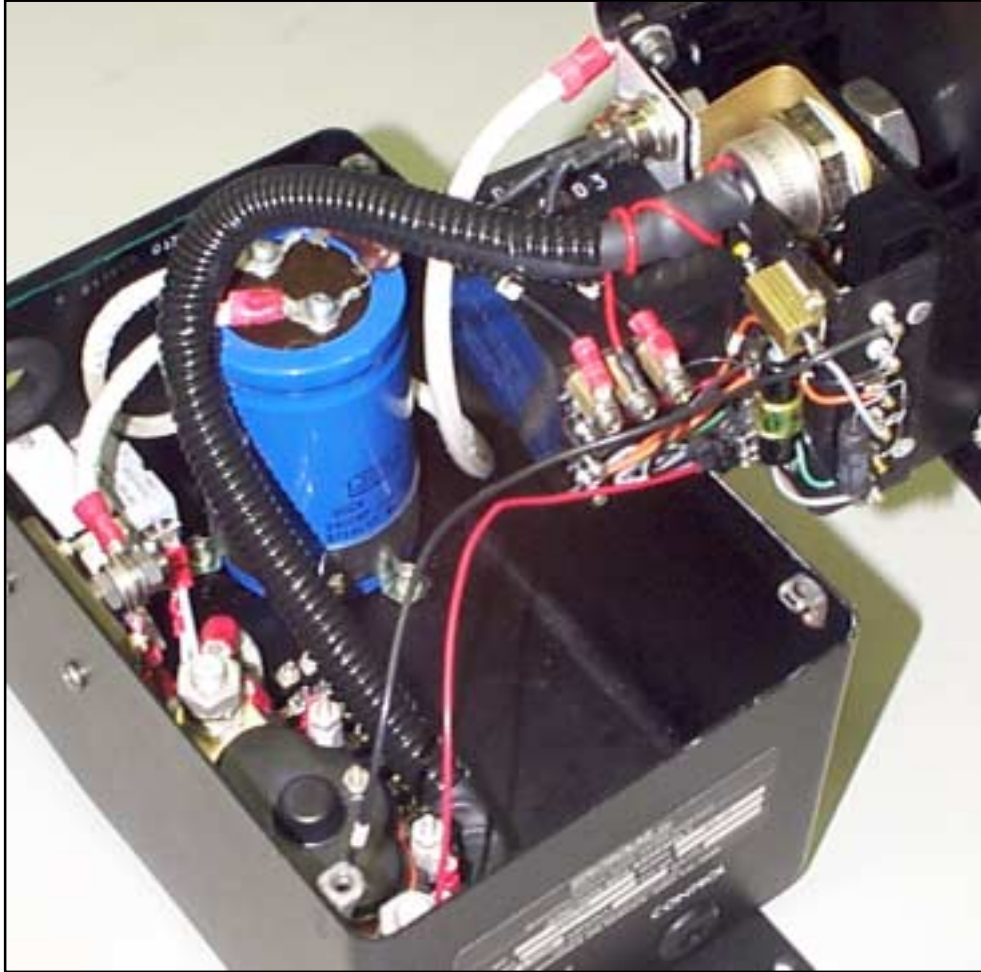

Figure 4
7. The final position of the Convolex® tubing should be approximately centered on the diode lead, as shown in Figure 4.